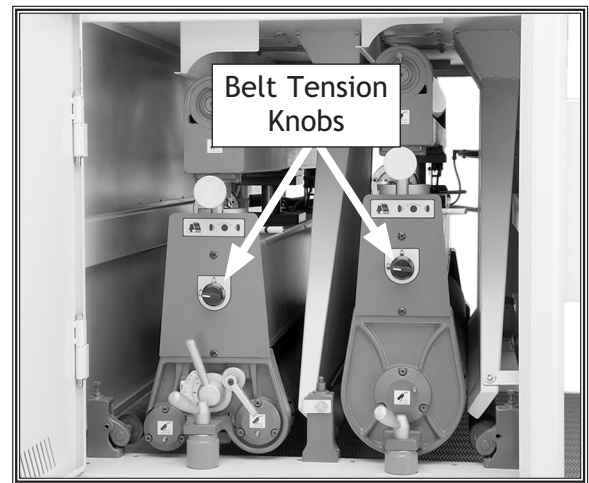

Figure 41. Belt tension knobs (W1757).
3. With the sanding belt tensioned (**Figure 41**), move the sanding rollers by hand and manually raise the table until you hear the sandpaper just contact the surface of the wood. DO NOT continue to raise the table beyond that point.